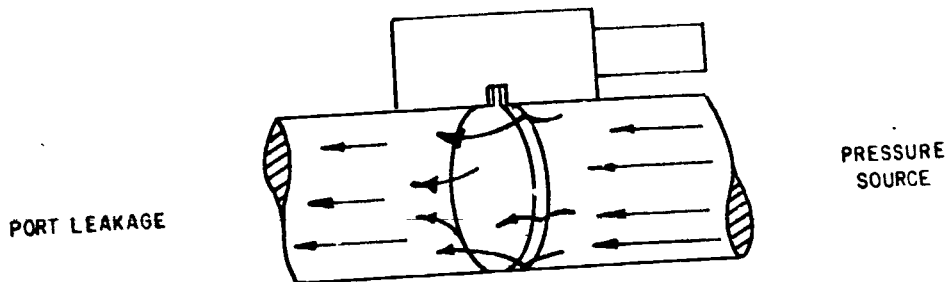

Figure 3.
1. In the next calibration step, you will check for port leakage. Port leakage is leakage past the valve butterfly with the valve in the CLOSED position. Figure 3 is an illustration of port leakage.